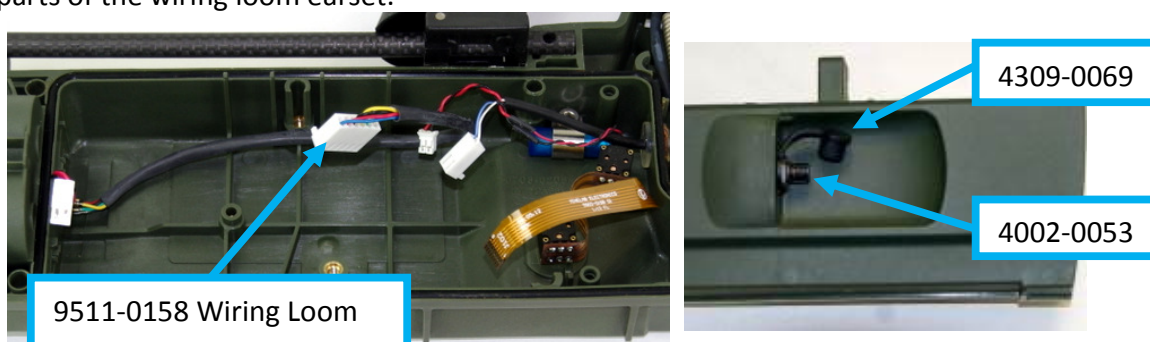

Figure 94: Wiring Loom Earset Kit
a. The wiring loom earset is a line replaceable unit and is available as a service kit, 3004-0058 Wiring Loom Earset Kit which includes associated parts. Figure 94 illustrates the major parts of the wiring loom earset.